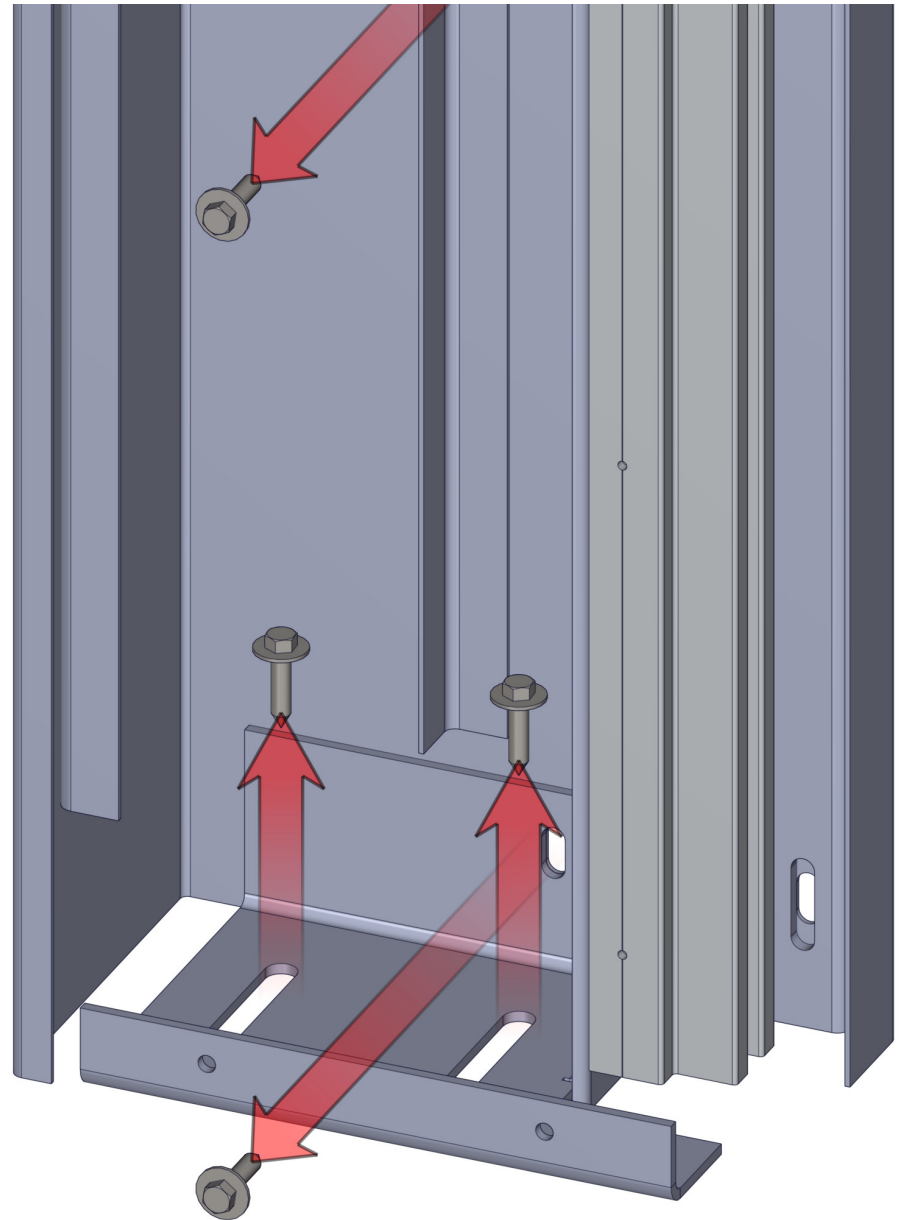

FIG 6.0
6. Remove the anchors from the floor and wall holding the guide in place. Remove guide from wall, as shown in **FIG 6.0**.